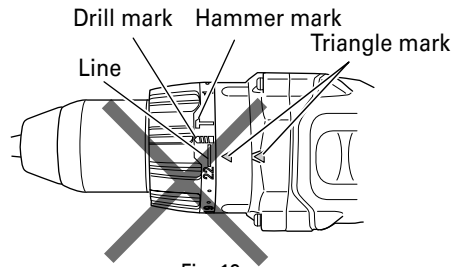

Fig. 13
- Do not use with the clutch dial number at "22" and the black line at the middle of the drill mark. Doing so may cause damage. (See Fig. 13)